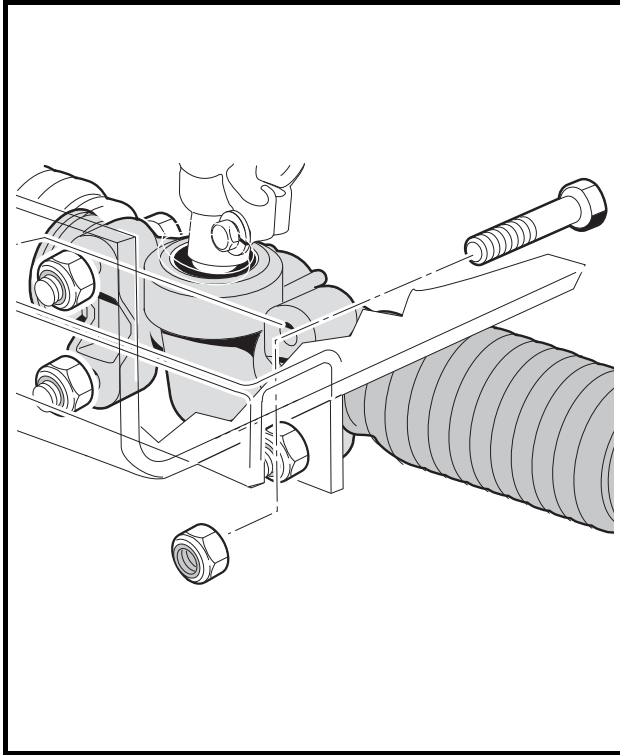

Figure 7-7 Rack and Pinion Bolts
5. Remove the ball joints (23) from the spindle assemblies.
6. Remove the four bolts (20), washers (21) and nuts (22) from the steering rack and pinion assembly mounting bracket (**Figure 7-19, Page 7-10**). Also see **Figure 7-7, Page 7-7**.